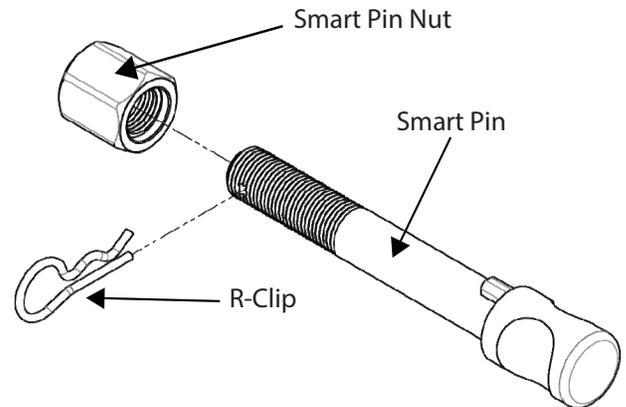

Fig 1. Smart Pin assembly
**STEP 5** Install SMART PIN R CLIP through the hole on the SMART PIN (Fig. 1).